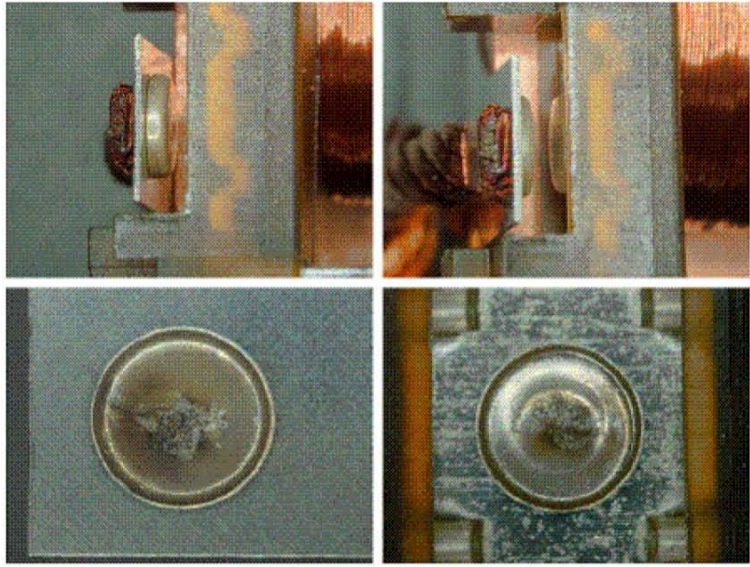

Figure 5. Contacts with minor marks.
D) Contacts with minor marks (Figure 5).